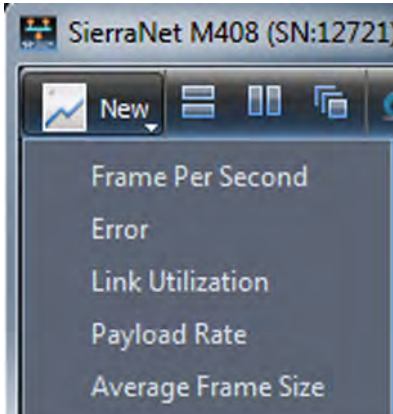

Figure 4.154: Real Time Statistics – Traffic Profile, New Window
- New Window (see Figure 4.154)